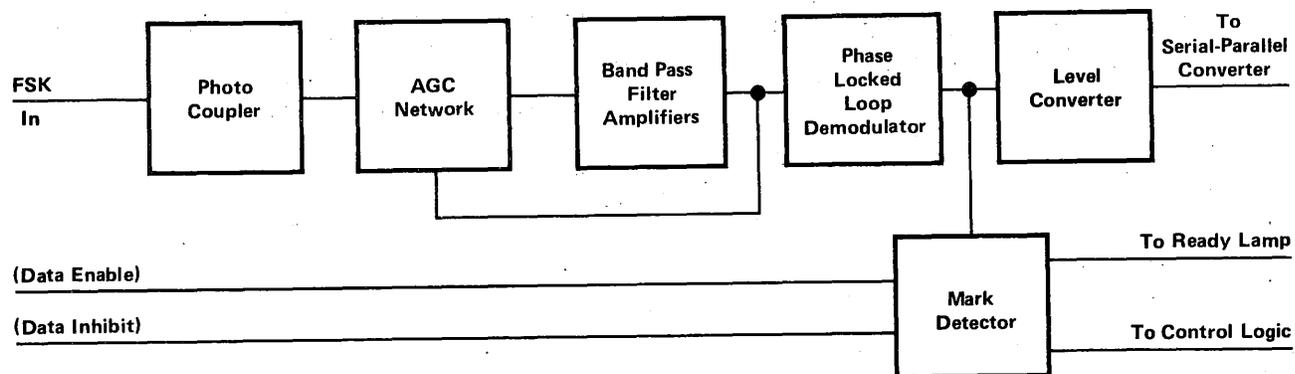

Figure 3-3. Demodulator Functional Block Diagram
3.08 The demodulator, functioning similarly to a receive-only type 103 data set, is illustrated in figure 3-3. FSK data enters the photo coupler isolating circuit from the telephone line. The FSK signal is then fed to the AGC network. The network accepts signal levels between -40 dBm and 0 dBm, amplifying the signal for presentation to the bandpass filter amplifiers. The preselector filter is tuned to the band center frequency, 2125 Hz. Space and Mark filters, providing final shaping of the bandpass curve of the receiver, are tuned to 1950 and 2300 Hz, respectively.